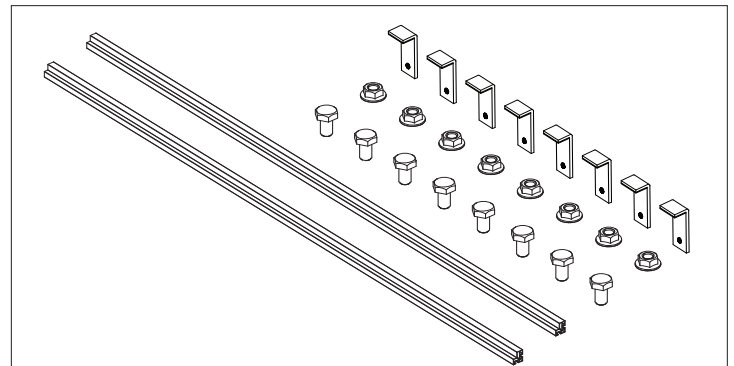

Figure 5.6.2: R2 Collector Frame (185546 R2) for Single Horizontal or Two Vertical Collector Arrangement Flush Mount ONLY
3. Bolt the trusses to the cross braces connecting the bolts as shown in Figure 5.3.2. The resulting assembly should look similar to Figure 5.2.3. The collector frames may then be bolted to the holes in the 51" rails using the 20 mm bolts. The triangular truss assemblies with cross braces should be attached to the center of the R2 collector frames (Figure 5.6.2) i.e. there should be an equal amount of the profile rail to the right and left hand sides of each of the triangular trusses. If multiple flat-roof mounting frames are being set up next to one another, use frame connector kits (SFC001, shown in Figure 5.2.6) to join them, as shown in Figures 5.1.2, 5.2.7 and 5.2.8. Note that there is an additional cross brace between the collectors.
frames (Figure 5.6.2) i.e. there should be an equal amount of the profile rail to the right and left hand sides of each of the triangular trusses. If multiple flat-roof mounting frames are being set up next to one another, use frame connector kits (SFC001, shown in Figure 5.2.6) to join them, as shown in Figures 5.1.2, 5.2.7 and 5.2.8. Note that there is an additional cross brace between the collectors.